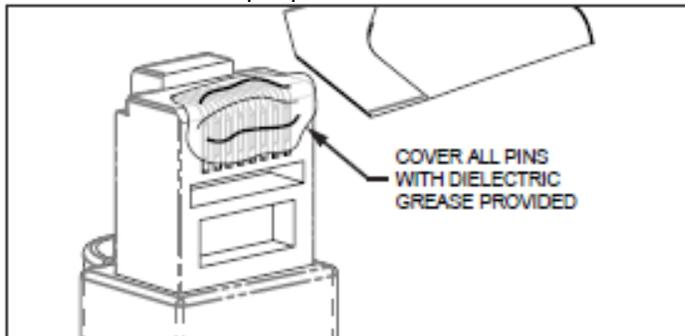

Figure 3a
3. Last, connect the other provided jumper cable between the RJ-45 jack labelled EQUIP on the ALPU-F140 surge protector and the RJ-45 jack on the peripheral Ethernet/PoE device to be protected, laying the cable into the adjacent channel in the cable grommet. NOTE: Apply provided dielectric lube to RJ-45 plug before installing into ALPU-F140 LINE jack to enhance weatherization as shown in Figure 3a.